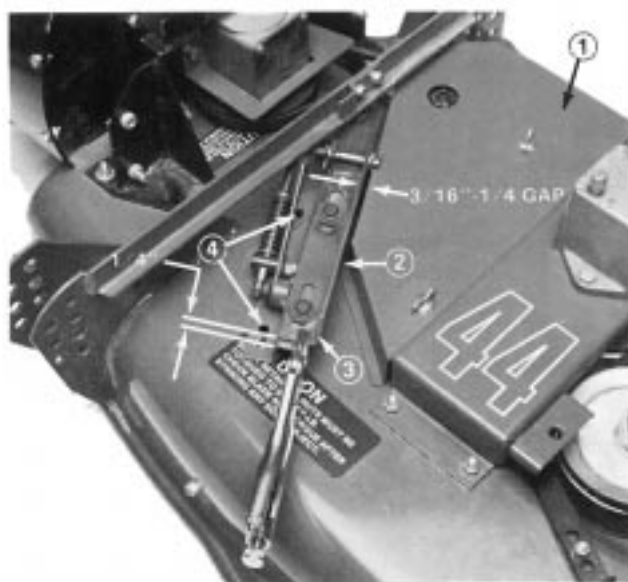

Figure 12
- 21.** Install new belt cover (Fig. 12).
Note: For older cutting units with knob type cover fasteners, the 1/4 turn fastener holes on the new deck cover must be punched out (Fig. 12).
1. Adjust idler slide so there is 1/4" (6 mm) from end of slide to end of mounting bracket. Clamp slide to retain this position while mounting to deck (Fig. 12).
2. Position idler assembly on deck so edge is parallel with belt cover and there is a 3/16"-1/4" (5–6 mm) gap (Fig. 12).
3. With idler assembly clamped, slide idler pulley firmly into blower belt (Fig. 12).